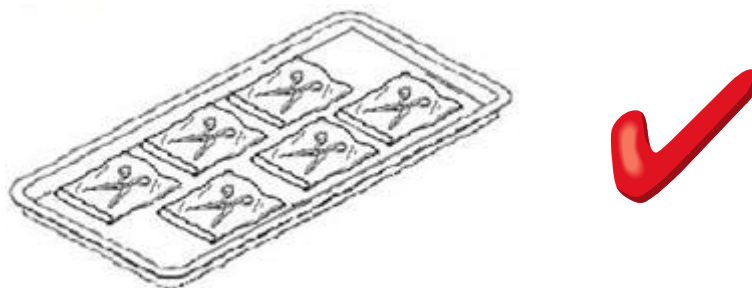

Figure 24
**Warning:** If implements are packed with sterilizing pouches, please make sure not to pile them up. Follow Figure 23 for correct placement and do not overlap pouches like Figure 24 to ensure the sterilization quality.